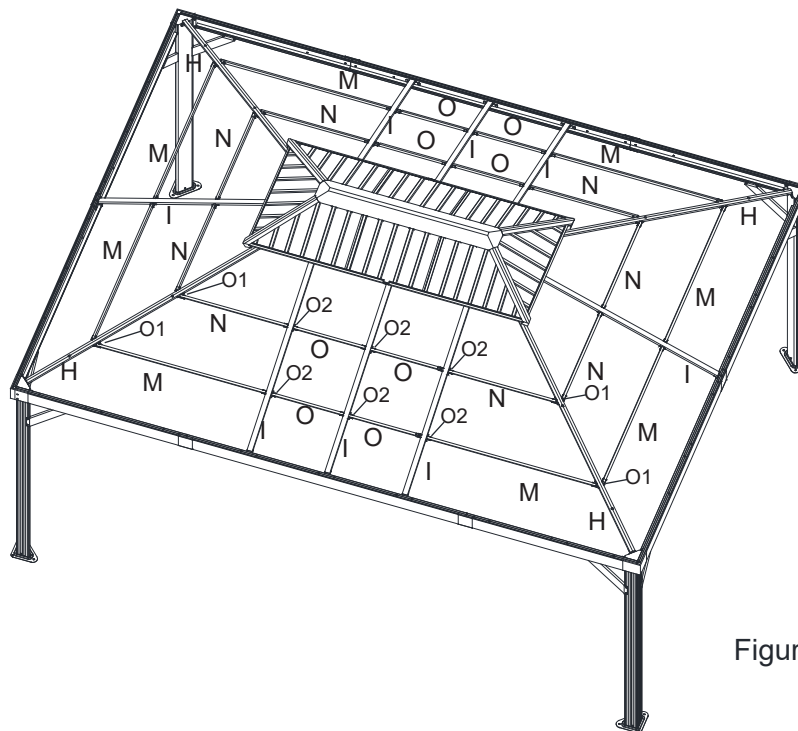

Figure 15-5
15.5: Repeat for all sides. Tighten all Bolts. See Figure 15-5.